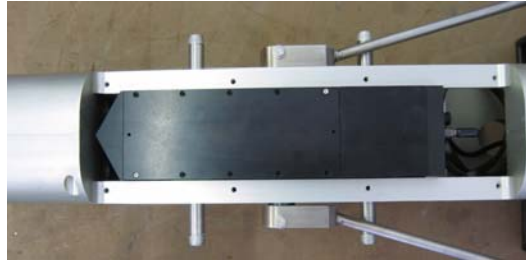

Figure 26
8. Carefully remove the top access panel. The top access panel is supplied with two clamps for securing a DTM. These clamps must be removed for the LOPC to fit. The clamps are held in place with two (2) cap screws each.
9. Slowly lower the LOPC into the MSFFF. The LOPC is lowered into the MSFFF with the bulkhead connectors pointing to the tail of the MSFFF. Take care to ensure that the MVP Tow Cable does not get pinched by the LOPC (See Figure 26).